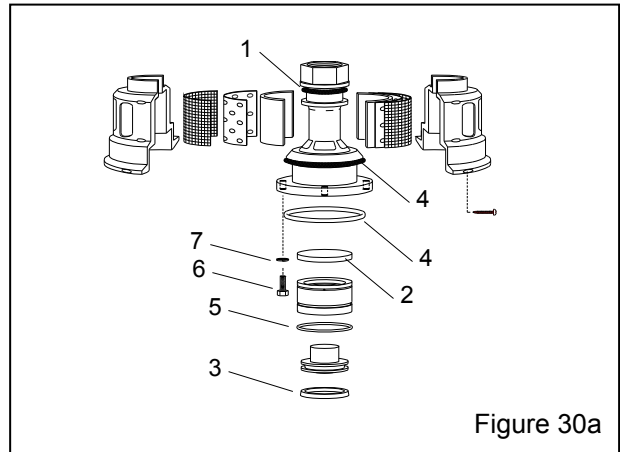

Figure 30a
*	Service kit, outlet segment (Fig. 30a)22857